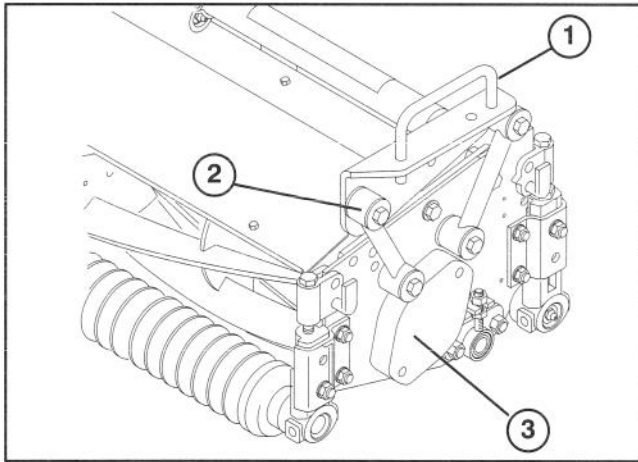
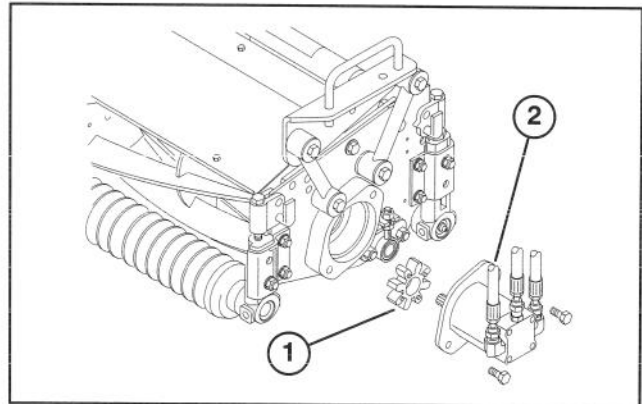

Figure 5
Figure 7
MOUNT CARRIER FRAMES TO CUTTING UNITS (Fig. 5)
3. Secure each mounting link to carrier frame with a 3/8-16 x 2-1/4" lg capscrew, (2) flatwashers and a locknut, as shown in figure 5. Position a washer on each side of link when mounting
MOUNT CUTTING UNIT DRIVE MOTORS (Fig. 7)
2. Remove bearing housing cover (Fig. 5) from inside end of right hand cutting unit. Install cover on outside end. Locate spider coupling (Fig. 7) shipped in bearing housing.